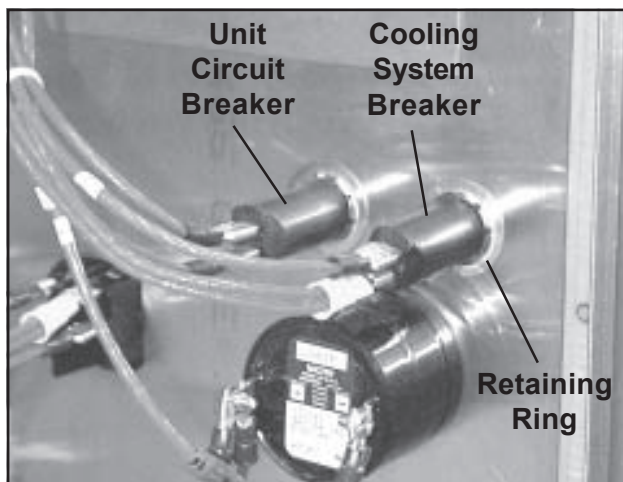

Figure 111. Rear View of Circuit Breakers
4. Pull the two spade connectors off the rear of the circuit breaker (Figure 111). **Note:** The breaker for the cooling system has three wires; the other breaker has only two.